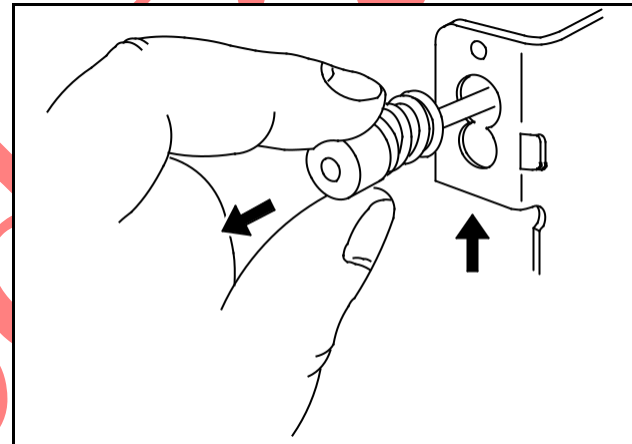

Fig. 35
2. Start engine and pull out on speed adjusting nut to maximum length of travel, Fig. 35.